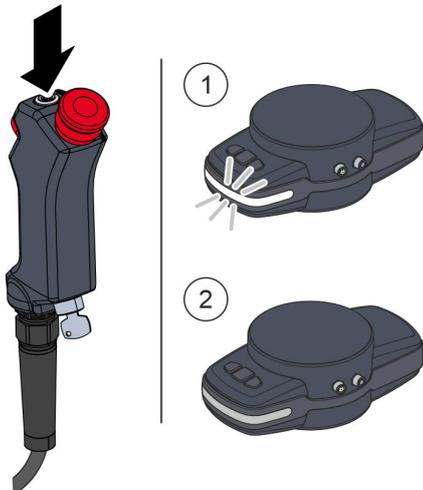

Fig. 66 Pressing the on/off button
03. Press the on/off button Fig. 66 on the handheld controller for about one second to switch the robot on or off.
- During the booting process, the status LED on the media flange initially flashes white Fig. 66 / (1).
- The status LED on the media flange Fig. 66 / (2) goes out when the robot is switched off.